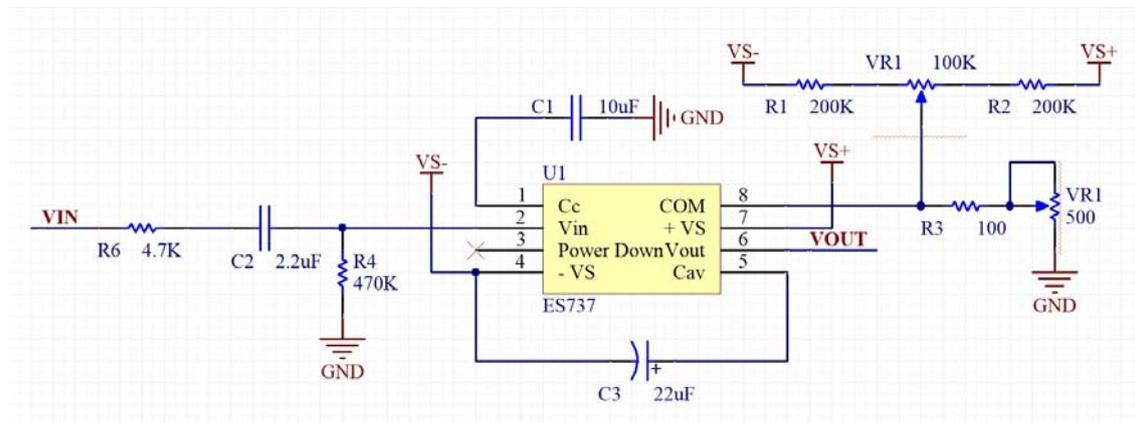

Figure 3. Adjust the zero-offset
**Note 3:** The input offset voltage can be reduced or canceled by an external 500kohm variable resistor shown in Figure 3.
### To Adjust the zero-offset & scale factor trim of ES737 (Figure 3)